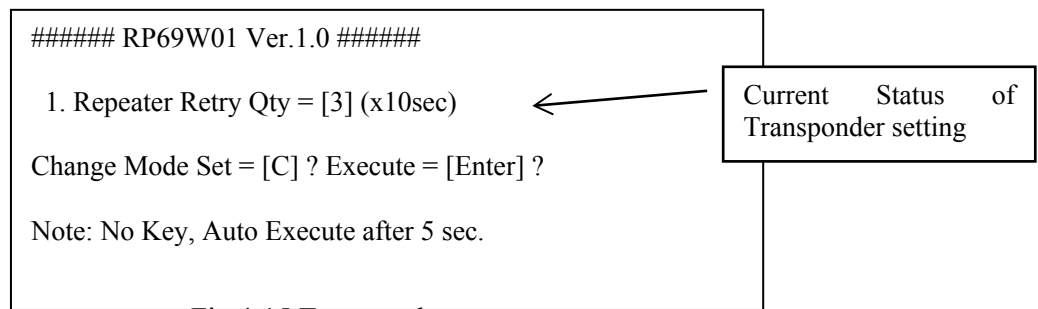

Fig.4-15 Transponder set-up screen
- When TRANSPONDER turned ON, the following screen (Fig.4-15) is displayed.